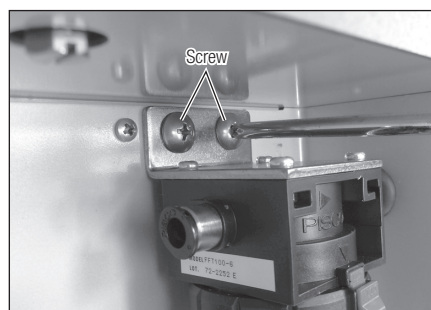

Fig. 32
- 3) Remove the two screws using a cross slot screwdriver to remove the air filter (Fig. 32).